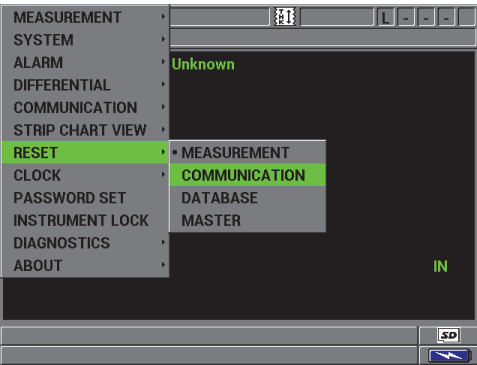

Figure 8-8 The COMMUNICATION RESET screen
1. Press **[SET UP]**, and then highlight **RESET** (see Figure 8-8 on page 148):